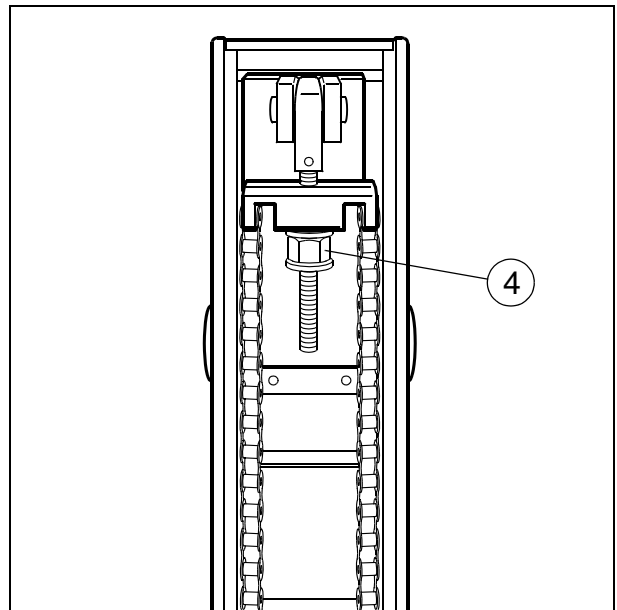

Fig. 8
- Tighten the screw by means of a 17mm fork wrench (4/Fig. 8).